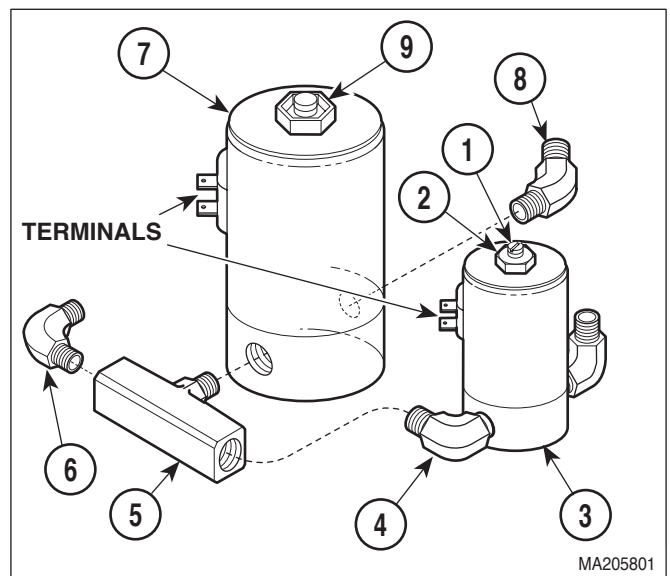

Figure 4-13. Fill Solenoid Fittings Removal / Installation
- (7) Remove manifold assembly (12) and spacer (12A) from base (13).
- (8) Hold screw (1, Figure 4-13) and loosen nut (2). Turn terminals out of the way.
- (9) Remove assembled vent solenoid (3) and elbow (4) from tee (5).
- (10) Remove elbow (6) and tee (5) from fill solenoid (7).
- (11) Remove elbow (8) from fill solenoid (7).
- (1) Coat threads of tee (5, Figure 4-13) and elbows (6 and 8) with teflon tape.
- (2) Install elbow (8) on fill solenoid (7).
- (3) Install elbow (6) and tee (5) on fill solenoid (7).
- (4) Loosen nut (9). Turn terminals of fill solenoid (7) so wires will connect easily to fill solenoid. Tighten nut (9).
- (5) Coat threads of elbow (4) with teflon tape.
- (6) Hold screw (1) and loosen nut (2). Turn terminals out of the way.